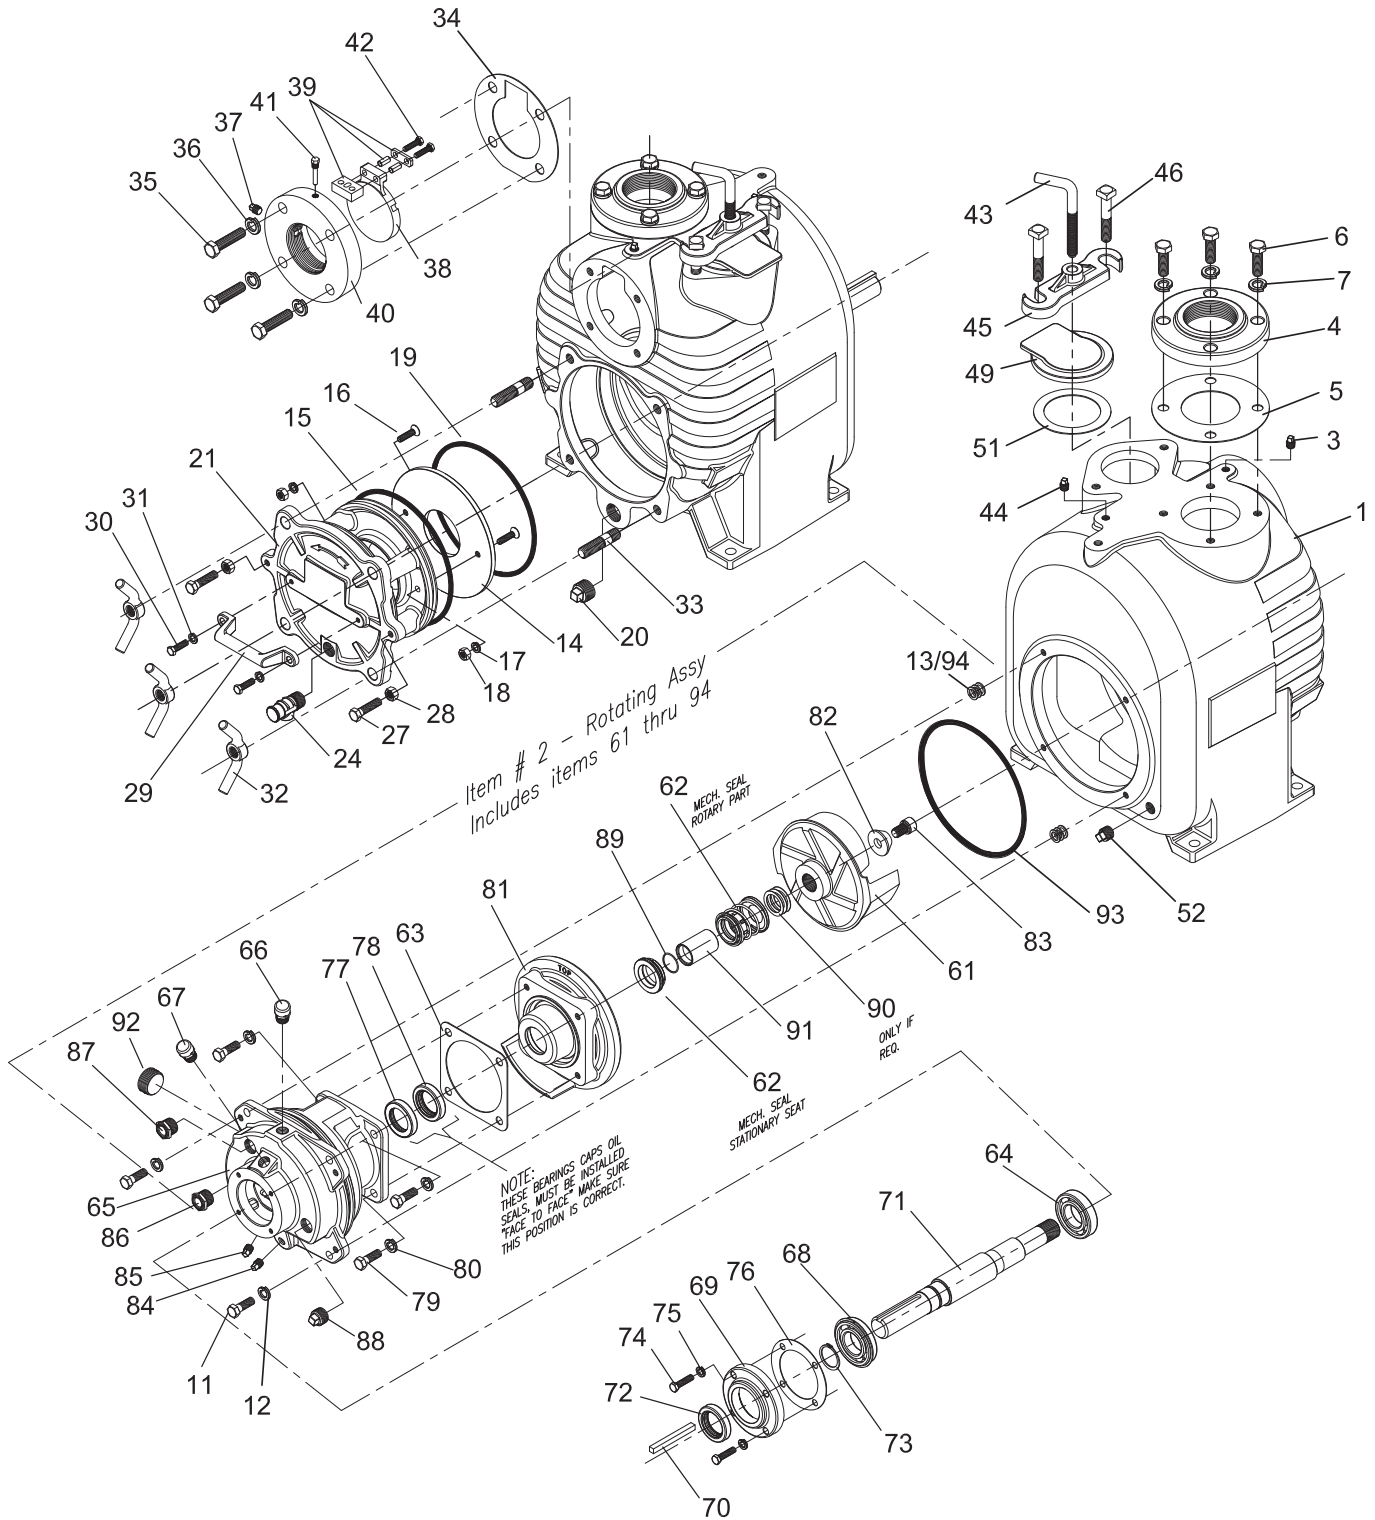

Figure 9
Before installing the impeller capscrew and washer, install the Rotating Assembly (2), See Figure 9, 10, 11 or 12. The rotating assembly must be installed in the pump casing before the impeller capscrew can be torqued down,
See Figures 9, 10, 11 or 12, depending on pump model for the following.